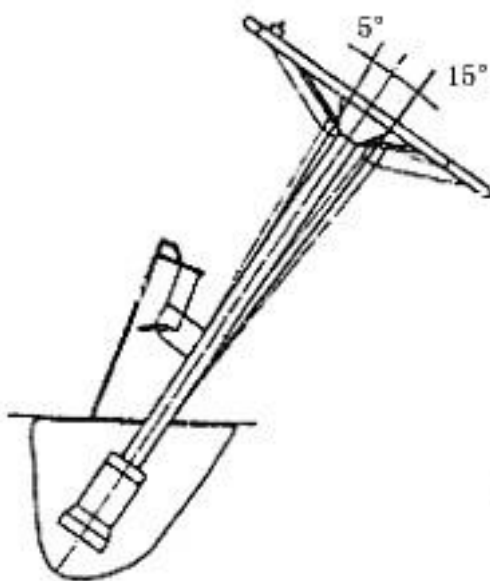

Fig 4-1 Orbitrol
##### (1) Fully Hydraulic Steering Gear Assembly (Fig 4-1)